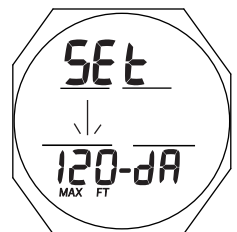

Fig. 41 - SET DEPTH ALARM
Set Depth Alarm (DA), information includes (Fig. 41):